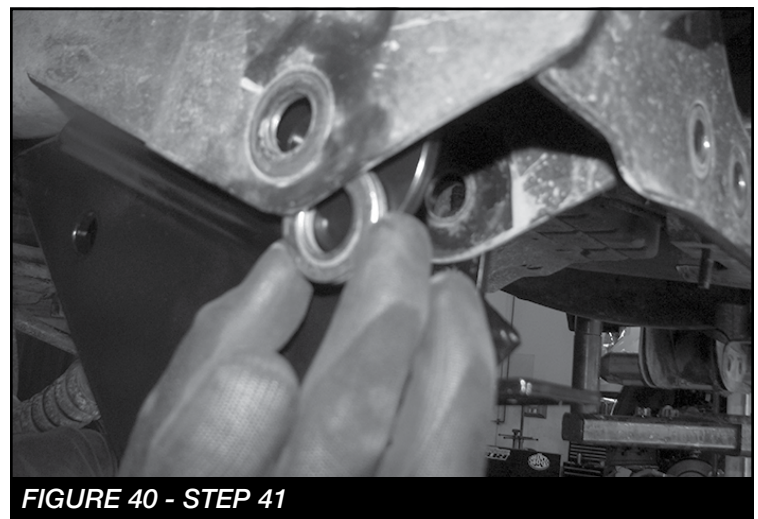

FIGURE 40 - STEP 41
41. From Bag 5, Locate the 3/4"-10 X 2" Bolt, 4 washers and nut. **NOTE: When installing the 3/4" bolt insert 2 washers between the factory bracket and the new Fabtech 4-link bracket.** Leave loose. **SEE FIGURE 40**